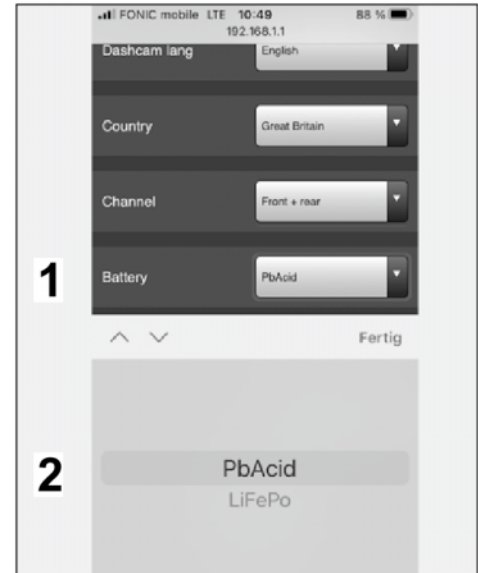

Figure 31
- 5.3.4 Select the battery type (⇒ *Figure 31*)